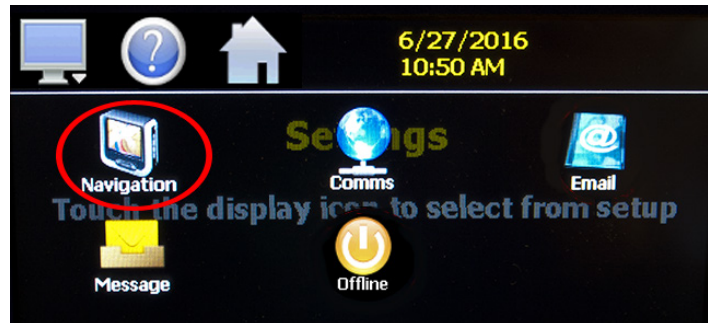

Fig. 29: Navigation Icon
1. Select HOME - MONITOR - SETTINGS - NAVIGATION icons (Fig. 29).